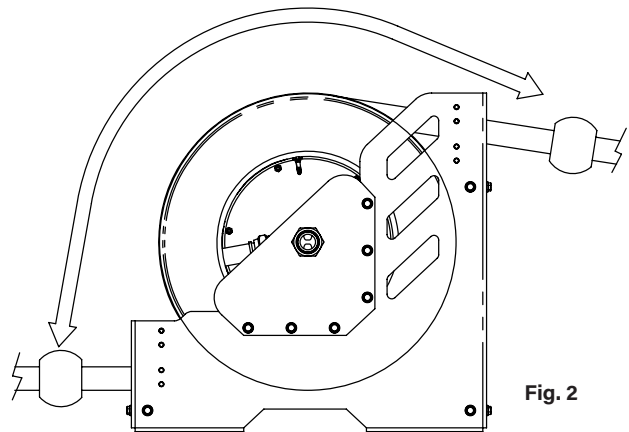

Fig. 2
4. Orientate the hose (it is not necessary to disassemble the hose stopper) towards the new hose outlet position. To do this, grab firmly the hose, unlatch the spool and turn it until the hose reach its new position (Fig. 2). Then, latch the spool again, at the nearest position.